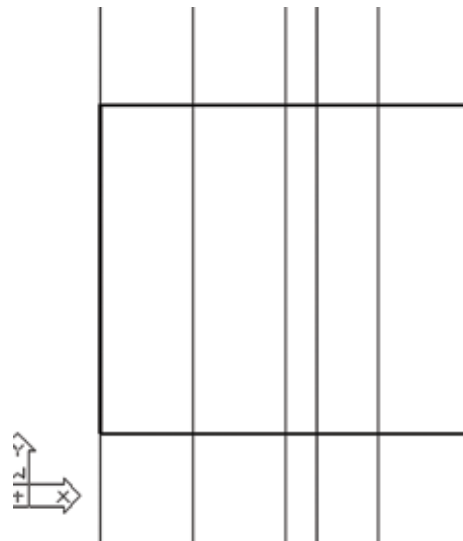

Figure 11.4
- Your drawing should look like Figure 11.4 at this time.